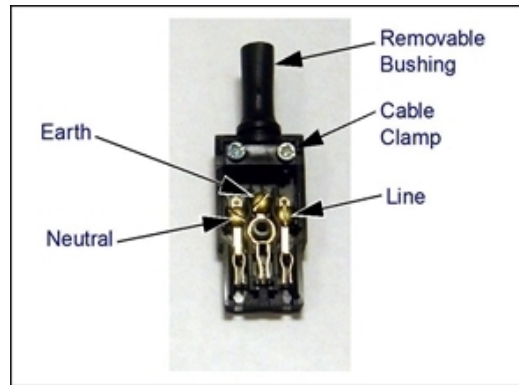

Figure 3-5. AC Power Mating Connector
3. Loosen the two screws on the cable clamp—see Figure 3-5.